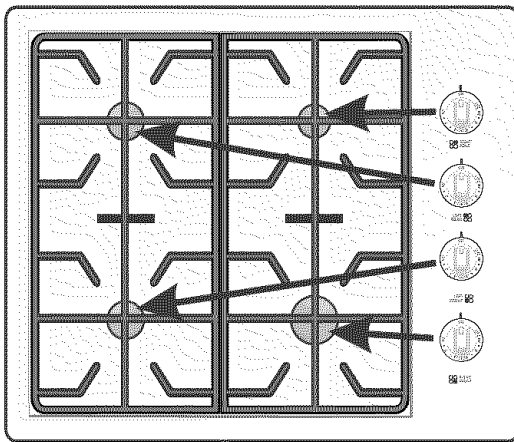

Figure 1 (30" models)
Cookware should have flat bottoms that make good contact with the entire surface heating element. Check for flatness by rotating a ruler across the bottom of the cookware (See Figure 1). Be sure to follow the recommendations for using cookware as shown in Figure 2.
When setting up the range for the first time, make sure that the correct Burner Heads, Burner Caps and Burner Grates are located as shown in Figure 1.
1. Place all 4 (four) or 5 (five) Burner Heads in the correct locations (See Figure 1). Make sure that the correct Burner Head is placed with the corresponding Gas opening and that the Electrode is located properly in the slot of each Burner Head (See Figure 2). Proper Burner Head placement insures that each Burner will have the correct spark required for surface gas ignition.